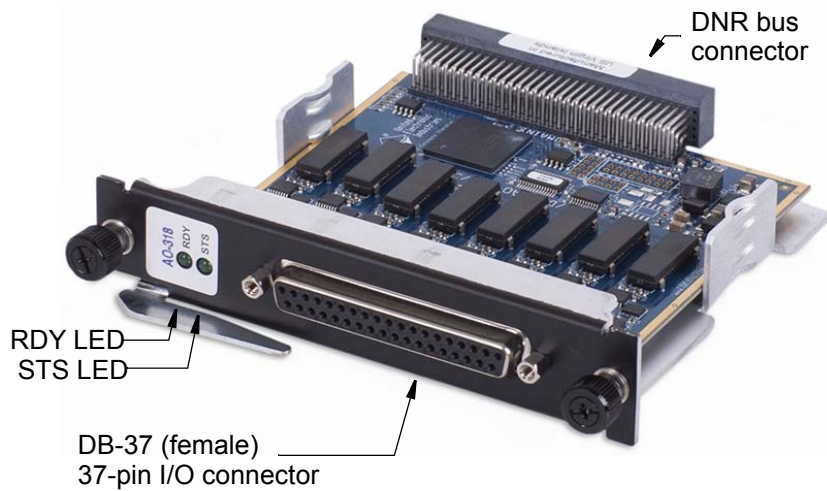

Figure 1-5 Photo of DNR-AO-318 Analog Output Board
The DNx-AO-318 and DNx-AO-318-02x indicators are described in **Table 1-5** and illustrated in **Figure 1-5**.
- **Measurement rate:** the rate at which the AO device monitors diagnostic channels. This rate has a direct influence on how fast the device reacts to an under or over-current condition. Setting this value too high increases the error rate, as described in Section **Figure 1.5**.